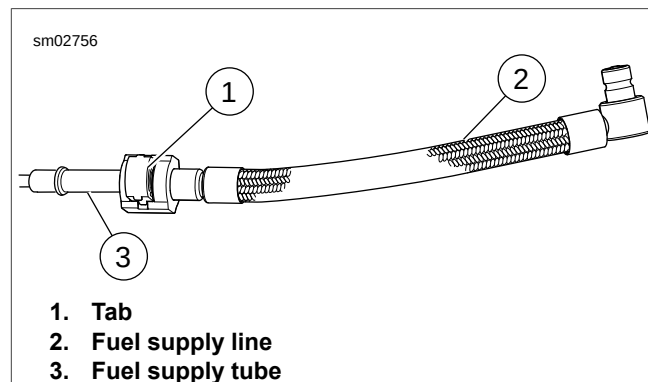

Figure 4-21. Fuel Supply Line
11. See Figure 4-21. If replacing fuel supply line (2), squeeze ends of tab (1) and pull tab away from fuel supply line to release from fuel supply tube (3).
3. See Figure 4-21. Slide fuel supply line (2) onto fuel supply tube (3). Push in on tab until it locks the fuel supply line (2) on fuel supply tube (3). Tug on fuel supply line (2) to verify it is locked into place.